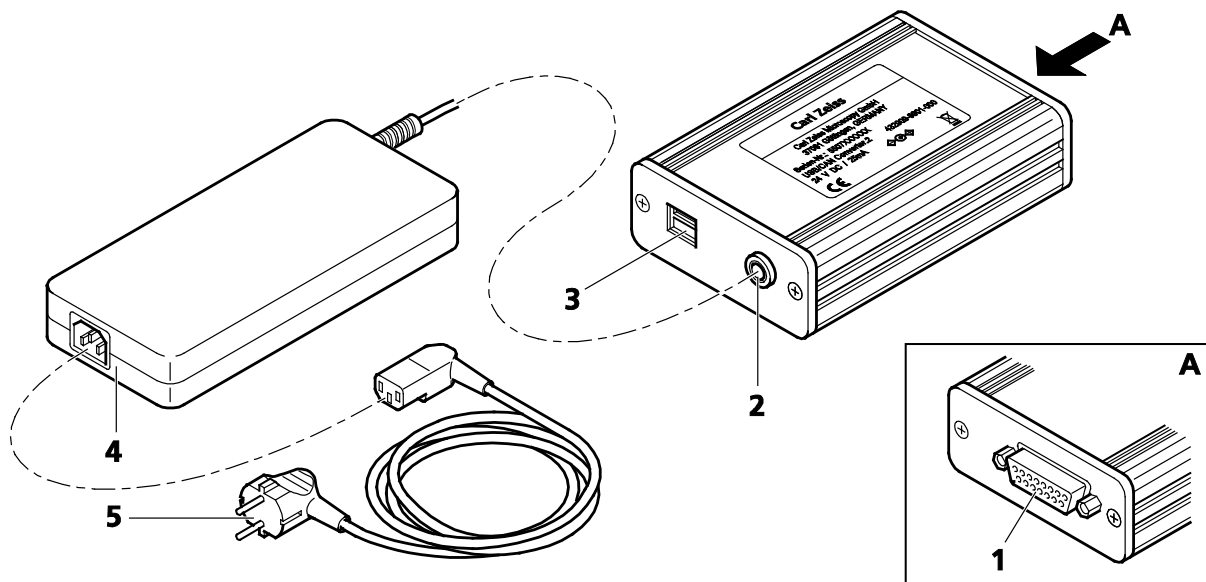

Fig. 1
- Connect the CAN port of the stage via CAN bus cable with the CAN port of the Converter CAN / USB (Fig. 1/1).
- Connect the USB port of the PC and the Converter CAN / USB (Fig. 1/3) via USB cable.
- Connect the DC voltage input of the Converter CAN / USB (Fig. 1/2) **24 V DC / 2.5 A** with the output of the power supply unit (Output **24 V DC / 1.25 A**). Afterwards connect the power supply unit (Fig. 1/4) with the mains socket outlet using the mains cable (Fig. 1/5).